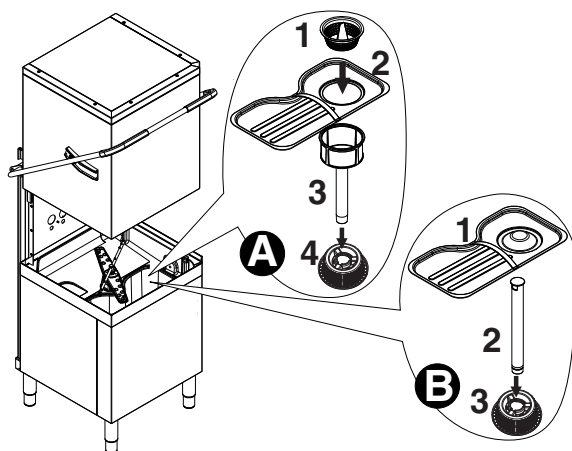

Figure 29 Filters and overflow
- In versions with supplementary filtering system (FS), remove the basket filter "1", the flat filter "2", the tank filter "3" and the pump suction filter "4" ("A" - Figure 29).
- In versions without supplementary filtering system (FS), remove the flat filter "1", the overflow "2" and the pump suction filter "3" ("B" - Figure 29).